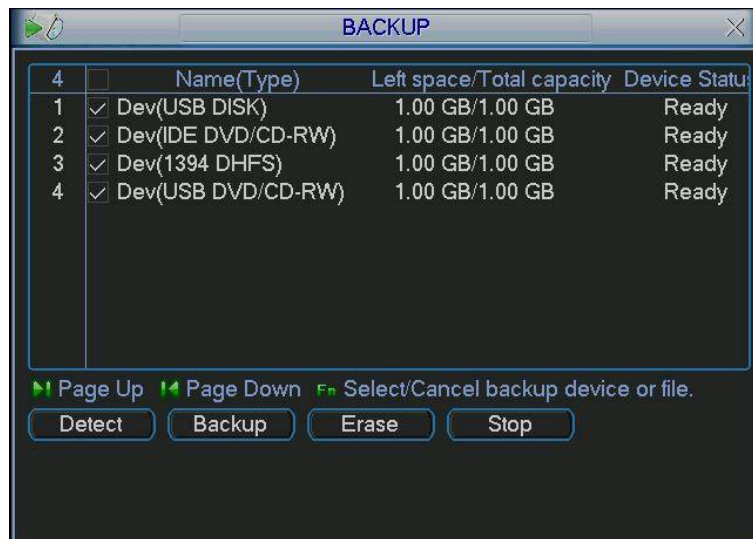

Figure 4-25
- PTZ activation: Here you can set PTZ movement when alarm occurs. Such as go to preset, tour & pattern when there is an alarm. Click “select” button, you can see an interface is shown as in Figure 4-25.
Click backup button, you can see an interface is shown as in Figure 4-25.Here is for you to view devices information.